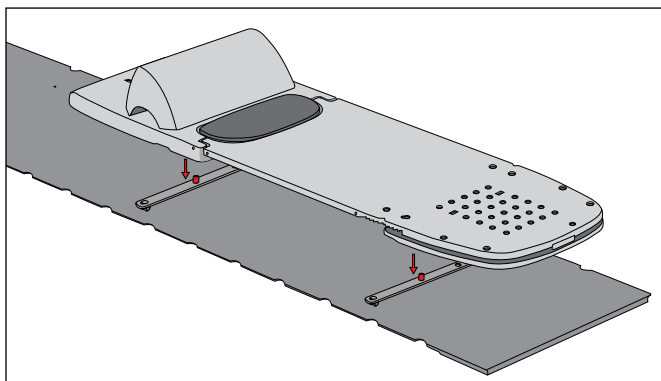

FIG. 2
2. Position the Access Supine over the Locating Bar so that the holes in the Base Plate align with the two pins in the Locating Bars. (Fig. 2)